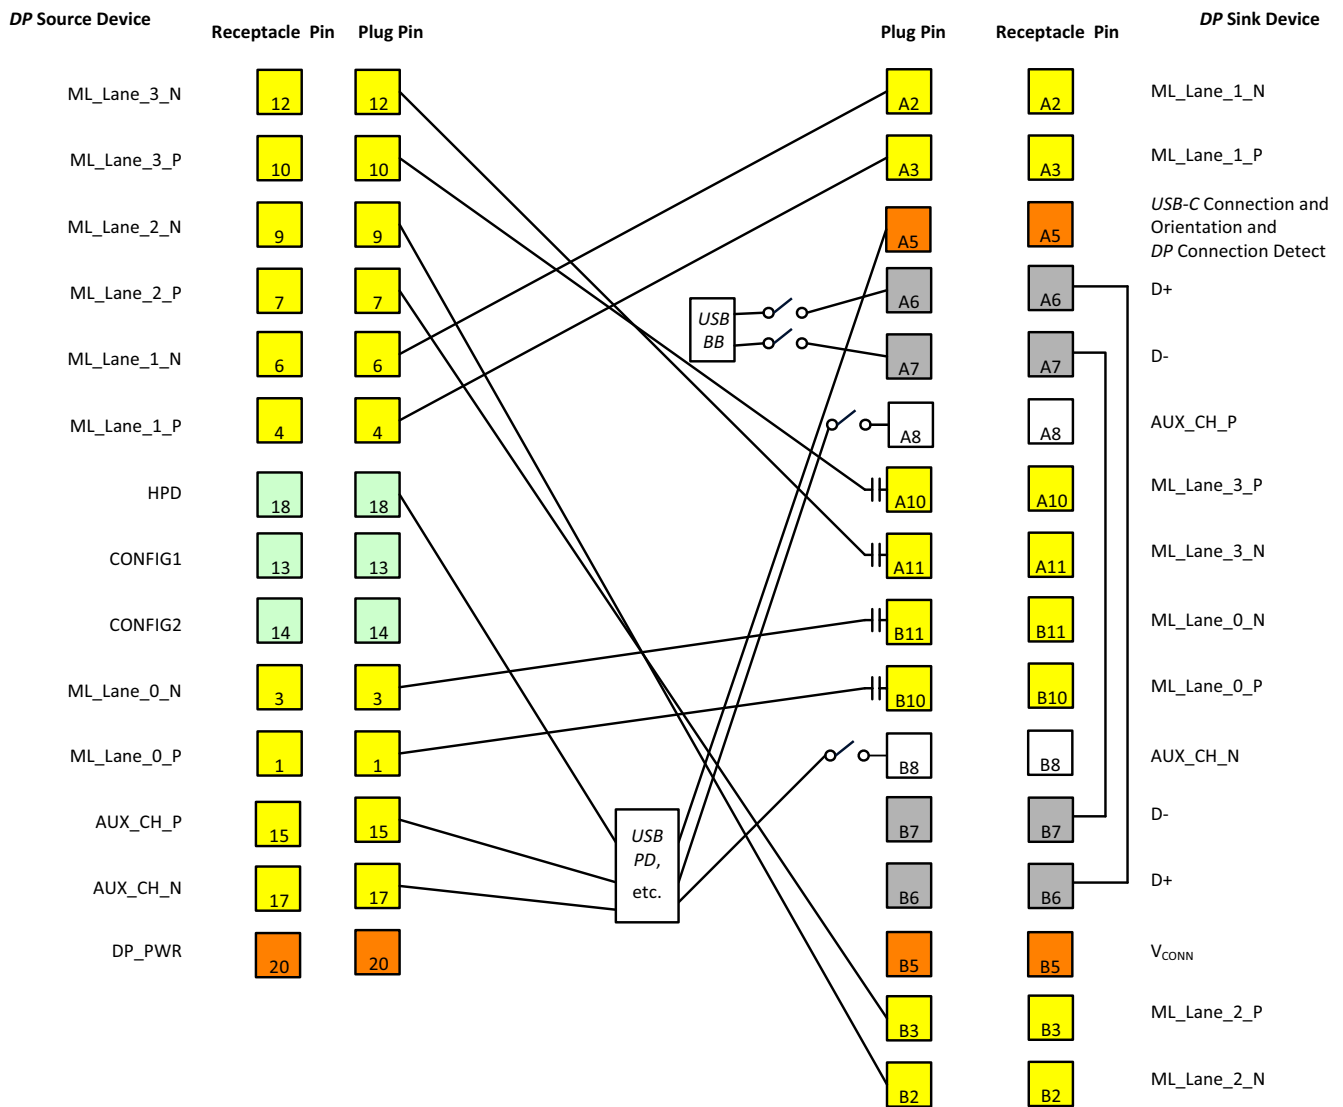
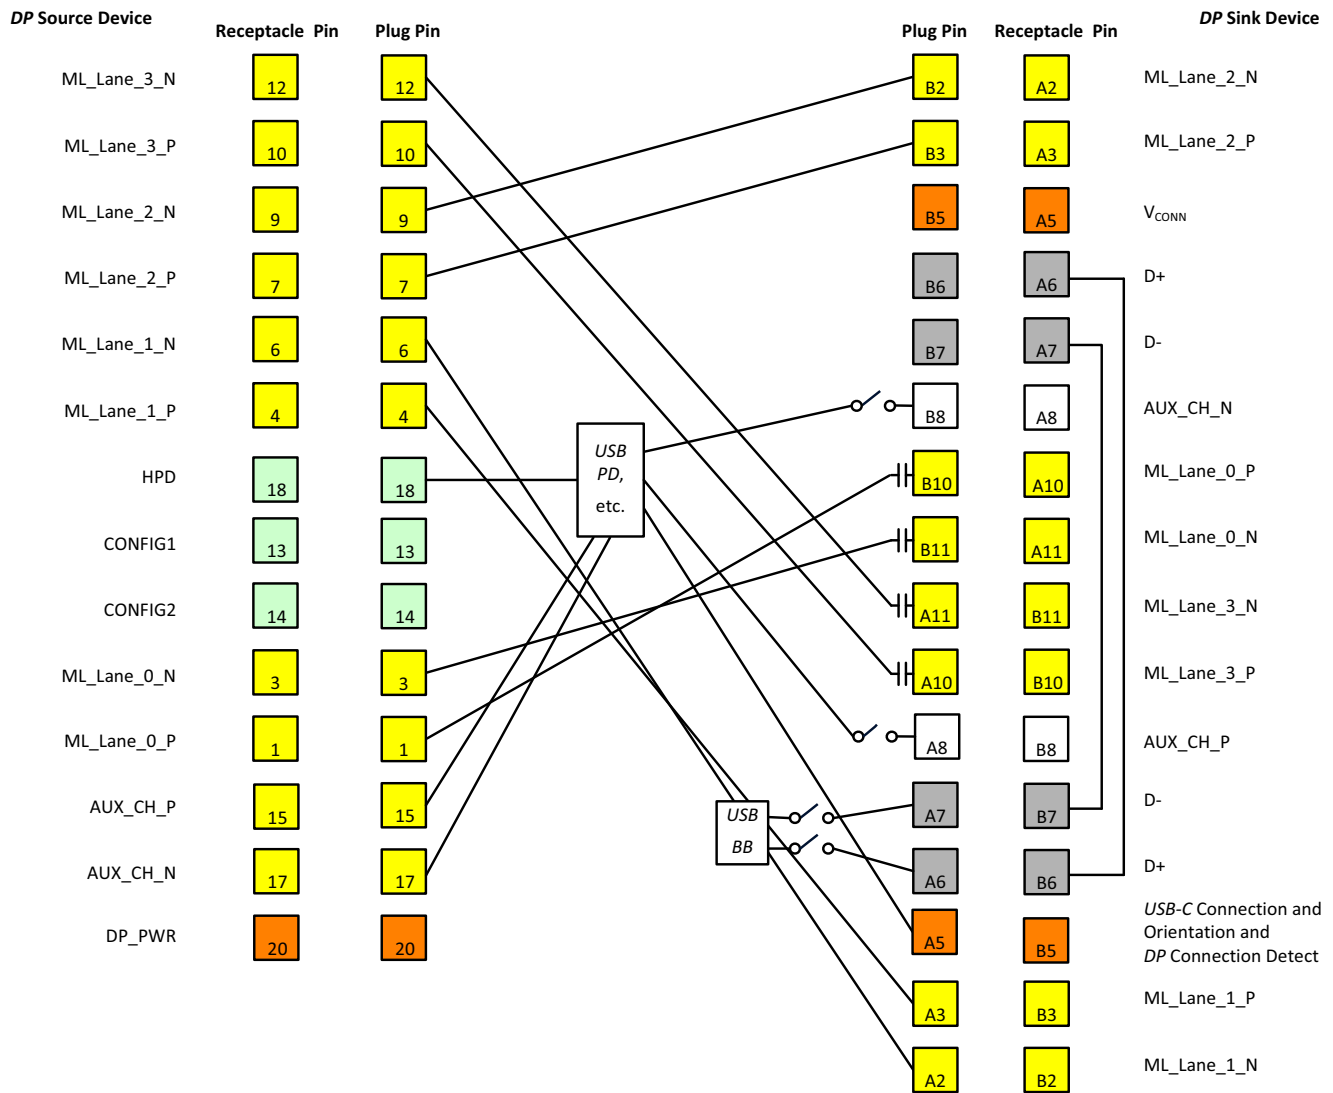

Figure 4-10: Scenario 2b Cable Wiring – Normal Plug Orientation on a Full-size DP Connector
Figure 4-11: Scenario 2b Cable Wiring – DP Sink Device Flipped Plug Orientation on a Full-size DP Connector
This scenario uses *DP* Sink device Pin Assignment E (see Table 3-20 and Table 3-21). The cable assembly is the same cable assembly that is used in Scenario 2a, but with *DisplayPort* running in the opposite direction. The pin numbering on the *DP* connector in Figure 4-10 and Figure 4-11 is that for a full-sized *DP* connector (see Table 4-6 for the mDP connector pin numbering). The following figures illustrate how *DisplayPort* uses the DP Source device-to-USB-C DP Sink device cable assembly's signal connections:
- Figure 4-10 illustrates when the *USB-C* plug is inserted in normal orientation
- Figure 4-11 illustrates when the *USB-C* plug is inserted in flipped orientation
Note: In Figure 4-10, the DP pin assignments assume that the DP Sink device is at the USB-C system.
Note: In *Figure 4-11*, the DP pin assignments assume that the DP Sink device is at the USB-C system.